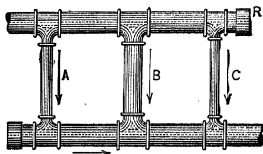

FIG. 40. Pipes *A*, *B* and *C* are connected in parallel.
19. Parallel Circuit. Voltage. Suppose, as in Fig. 40, we should join two main pipes *R* and *S* by means of three parallel pipes *A*, *B* and *C*. All the parallel pipes lie be-
20. Parallel Circuit. Current. Turning again to Fig. 40, it is seen that, since the pipes A , B and C are not joined in series, they are independent of one another, and do not have to carry the same current. In fact, it is very evident that the largest pipe will carry the largest current and the smallest pipe the smallest current. Water and electricity do not take the path of least resistance. They take all paths. Where the path is of small resistance, a heavy current flows. Where there is a path of large resistance, a small current flows. But the water or the electricity is sure to make use of both the low resistance and the high resistance paths and force as much current as possible through both. The total current that flows through is merely the sum of the currents in the separate paths.
Or, referring to Fig. 40, it can be seen that the more pipes there are connected in parallel between the main pipes *R* and *S*, the easier it is for the water to get from one main pipe to the other. Hence the smaller the resistance between the main pipes.